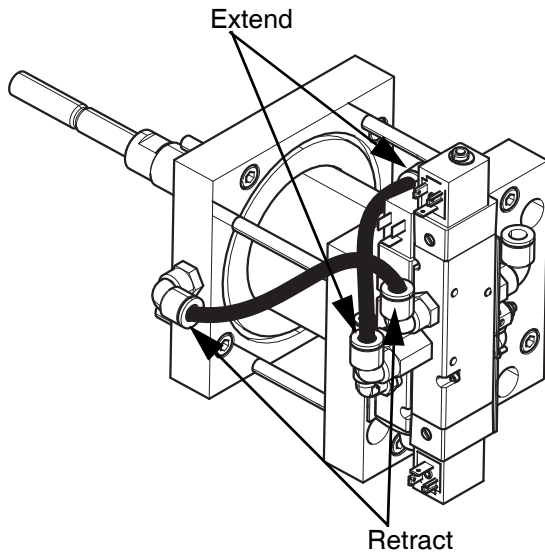

FIG. 6: Attaching the Air Line Tubing
9. Cut the air line tubing (part #61/2906-BK/11) included in the kit to the appropriate lengths to make the retract and extend air cylinder connections. Refer to Figure 6 below.